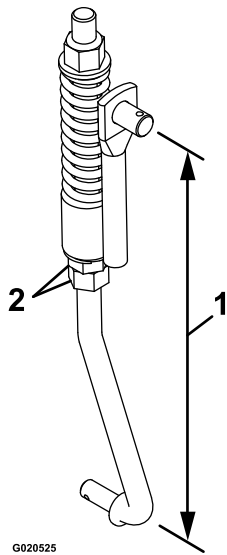

Figure 50
8. Adjust the linkage length with the 2 nuts at the bottom of the vertical spring assembly (Figure 50).